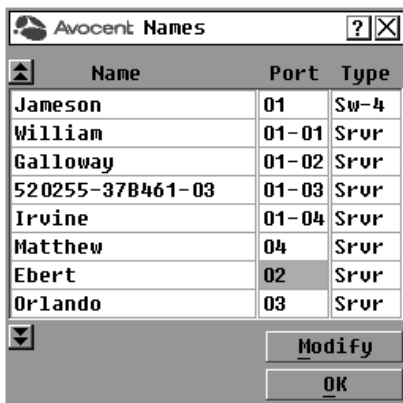

Figure 3.16: OSCAR Interface Names Dialog Box
2. Click *Setup - Names* to open the Names dialog box shown in Figure 3.16.